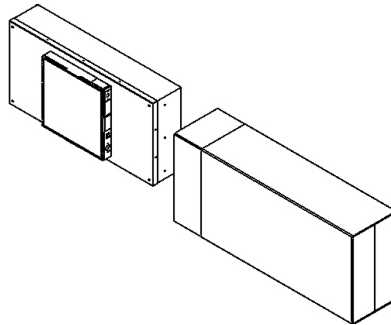

FIGURE 1 : UNBOXING
**Step 1:** Carefully remove the unit from the shipping carton and inspect for any damage that may have occurred during transportation. (See Figure 1.)